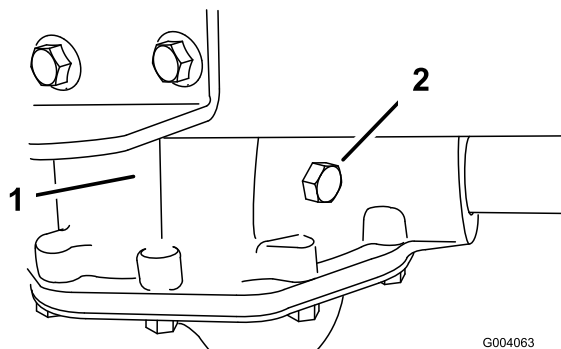

Figure 31
2. Remove the check bolt on the transaxle (Figure 31).